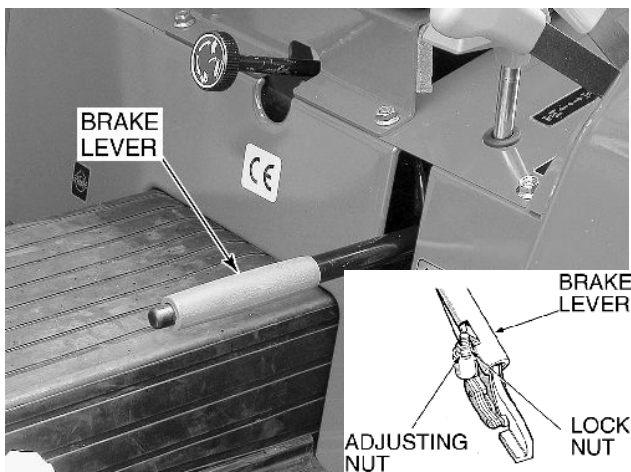

Figure 79 - Parking Brake Adjustment
2. Release the parking brake lever, Figure 79. Slacken the locknut and turn the adjusting nut so that both rear wheels are locked when the parking brake lever is applied 3-4 notches on the ratchet.